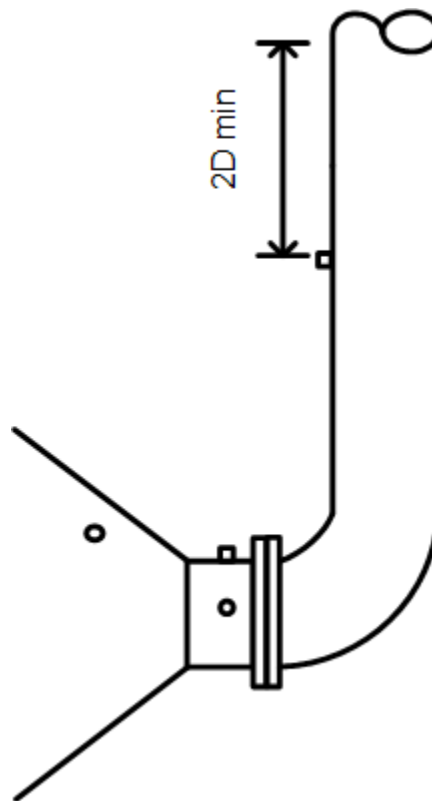

Figure 2-7. StableSense HEGO Post-Catalyst Exhaust Mounting Recommendations
- When mounting post-catalyst sensor, it should not be closer than 2 pipe diameters from the stack exit to reduce ambient air interference. See Figure 2-7.